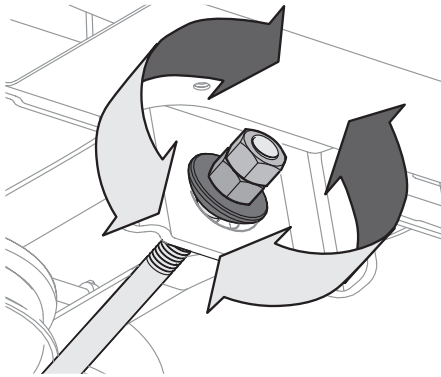

Figure 29
4. To *raise* the front of the deck, loosen the outer nut then tighten (thread inward) the inner nut against the front hanger bracket. See Figure 29. When proper adjustment is achieved, re-tighten the outer nut to 25-30 ft.-lbs (34-40.7 N-m).
5. To *lower* the front of the deck, loosen the outer nut then loosen (thread outward) the inner nut, away from the front hanger bracket. See Figure 29. When proper adjustment is achieved, re-tighten the outer nut.